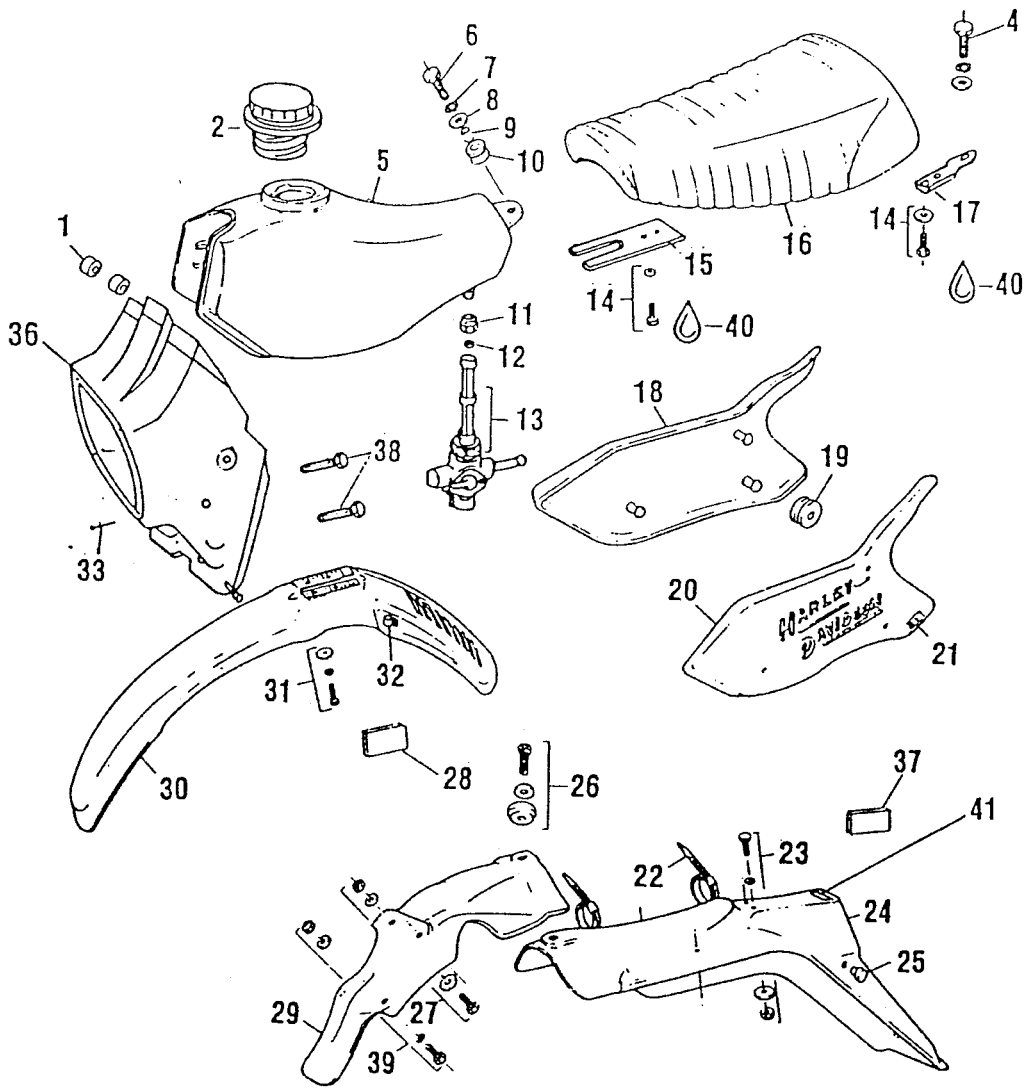

Figure 5-34. Seat, Sidepanels, Fenders, Headlamp Cowl
LEGEND - FIGURE 5-34
GENERAL (Figure 5-34)
1. See Figure 5-34. The seat is retained by a hexagon headed bolt (26) that screws into a hex nut on top the rear fender.